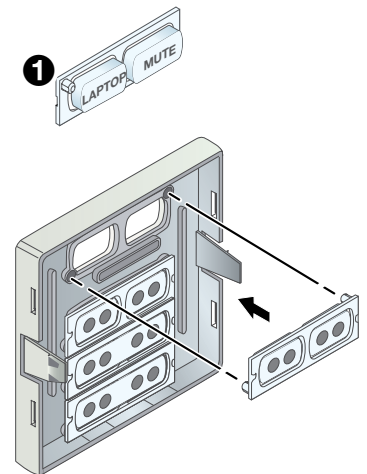

Figure 7. Replacing Buttons
2. On the back of the bezel, insert the replacement button or button pair into the appropriate slots. Ensure the text is in the correct orientation. Align the two pegs in the button membrane (see figure 7, ①) with the holes located at opposite corners of the empty space in the faceplate.